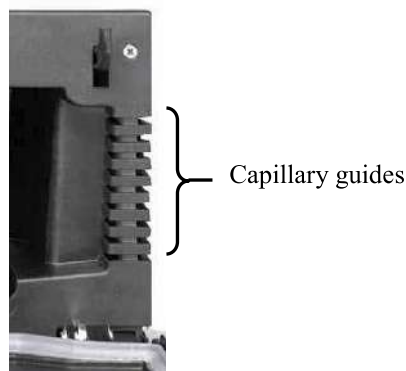

Fig. 14: Capillary guides (here on the right of the column chamber)
- ◆ Guide the capillaries from and to the column switching valves through the guides provided on the right and on the left of the column chamber (→ Fig. 14, page 47). This is a must.